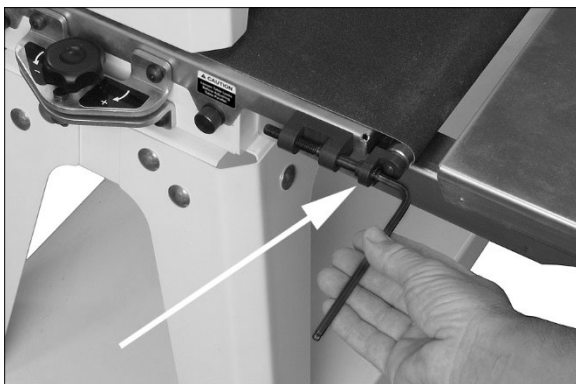

Figure 8-2: belt tension adjustment
2. Adjust take-up screw nuts (Figure 8-2) with 5mm hex wrench. Do this on both sides of conveyor to obtain approximately equal tension on both sides of sanding belt when taut.